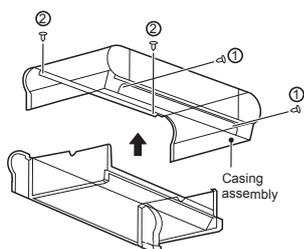

Figure 4-6 Removal of casing
- c) As shown in Figure 4-6, remove screws ① *2 and ② *2 and then the casing.